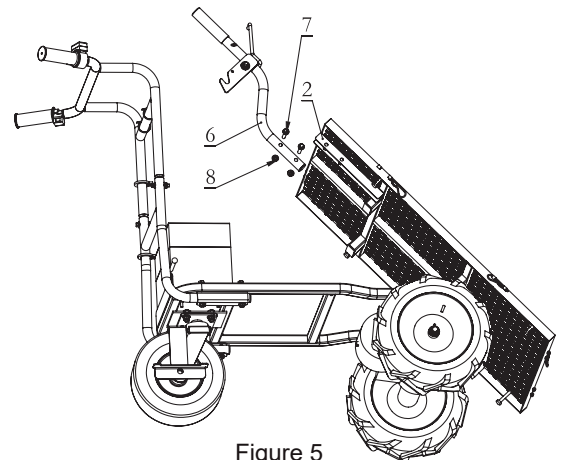

Figure 5
2. Attach the dumping handle(6) to the bottom wire deck(2), screwed by Flange bolt (7) and nut(8); (See Figure 5)